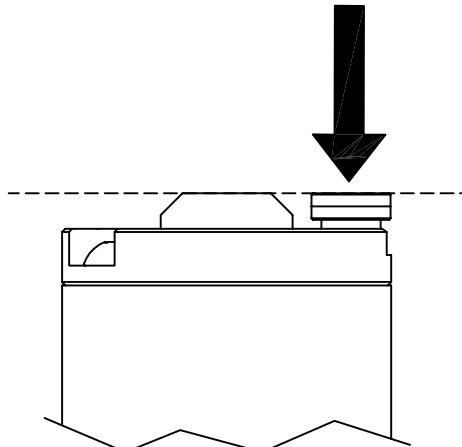

Figure 7.5 Temperature element position
17. Check that the temperature element (a) is properly spring-loaded. In outer position, the sensor tip should be level with the prism sensor, Figure 7.5. It should flex inwards 2–3 mm as indicated by the arrow in Figure 7.5, but return to the outer position.